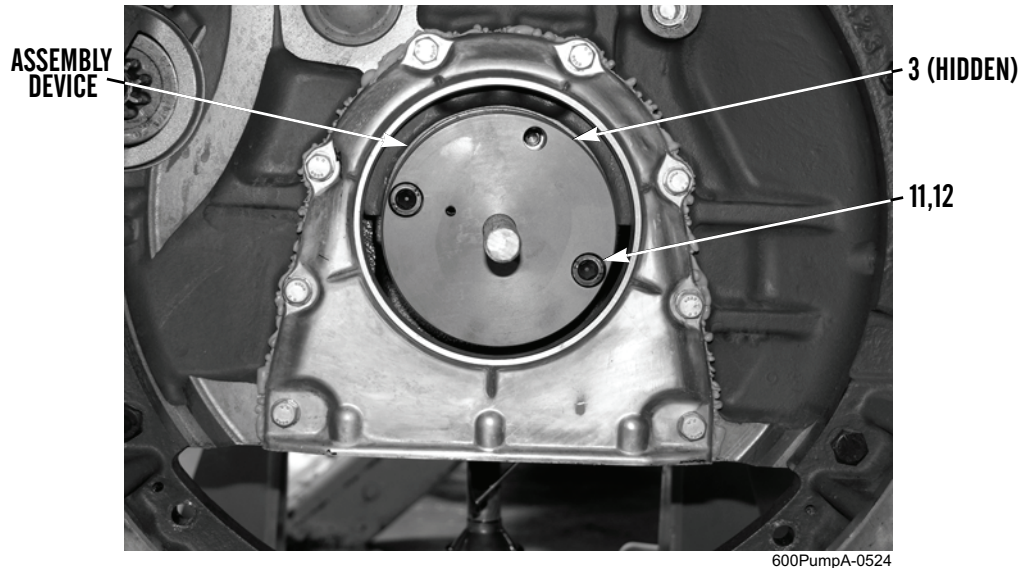
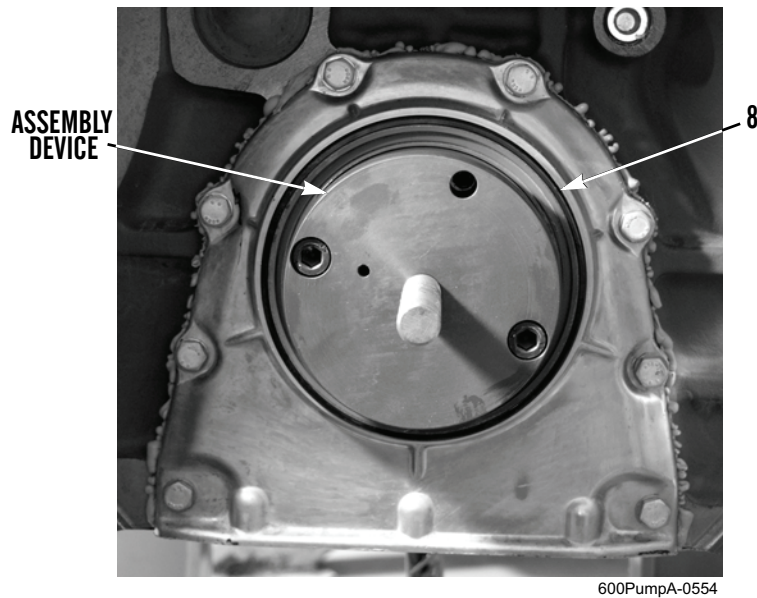
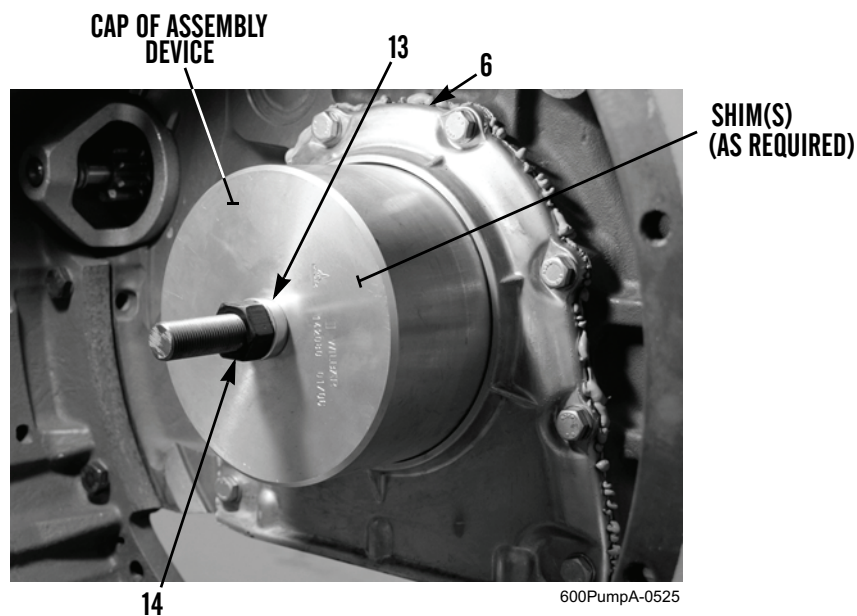

Figure 7. Installing Assembly Device.
Figure 8. Installing Rear Main Seal on Assembly Device.
Figure 9. Installing Rear Main Seal.
4. Install assembly device on crankshaft (Figure 7, Item 3) with two bolts (Figure 7, Item 11) and washers (Figure 7, Item 12).
5. With sealing lip facing crankshaft (Figure 7, Item 3), install new rear main seal (Figure 8, Item 8) on assembly device.
7. As required, install shim(s) in cap of assembly device (Figure 9).
8. Install cap of assembly device with washer (Figure 9, Item 13) and nut (Figure 9, Item 14).
9. Turn nut (Figure 9, Item 14) until it bottoms to seat rear main seal (Figure 8, Item 8) to correct depth in rear cover (Figure 9, Item 6).